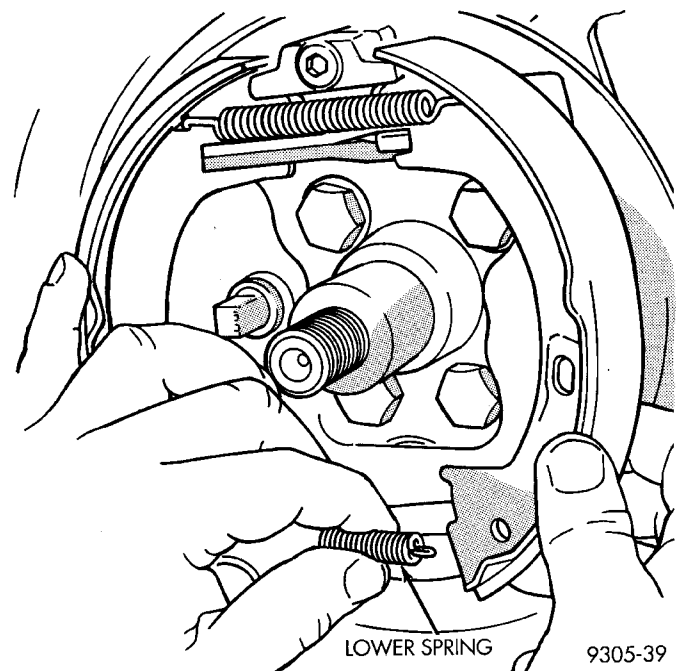

Fig. 160 Brake Shoe Lower Return Spring
- (9) Remove lower shoe to shoe spring (Fig. 160).
- (3) Pull rear brake shoe over anchor block until properly located on adapter.
- (4) Install the lower shoe to shoe return spring (Fig. 160).